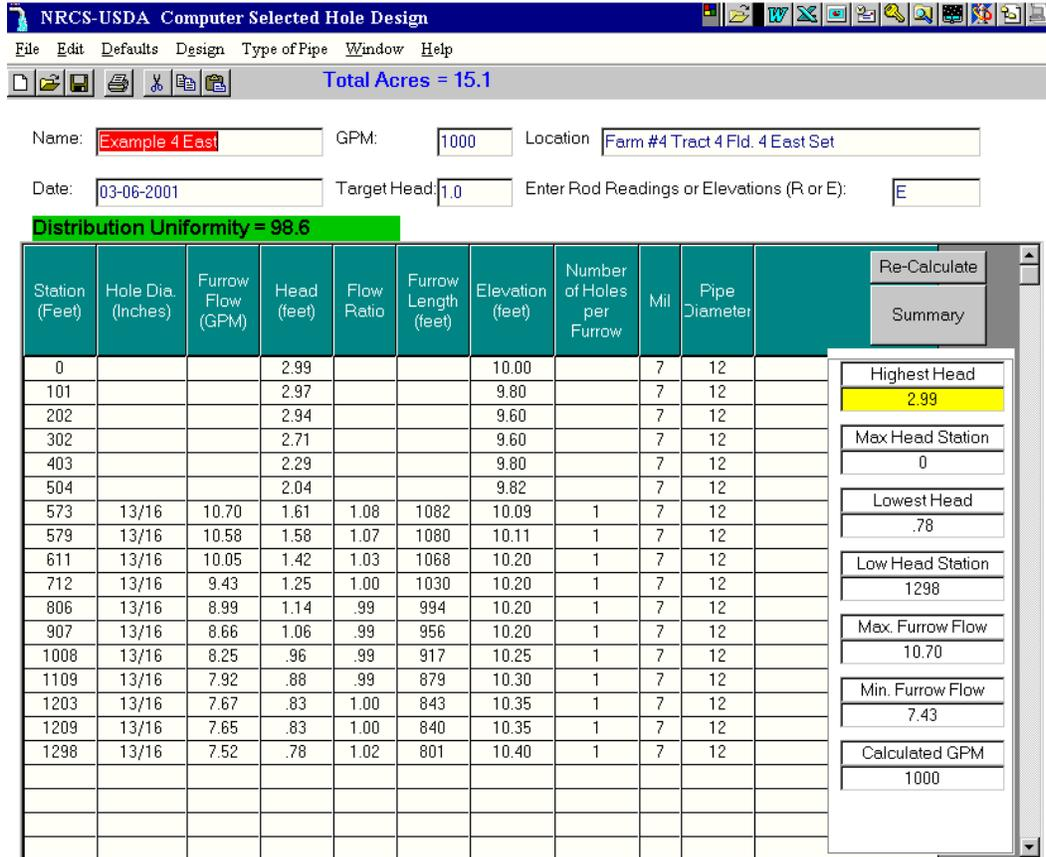

Figure 4.8 CSH Design
**STEP 6:** Select Computer Hole Selection from the design menu. The calculated design provides good distribution uniformity but the Highest Head is 2.99 ft. (fig. 4.8).